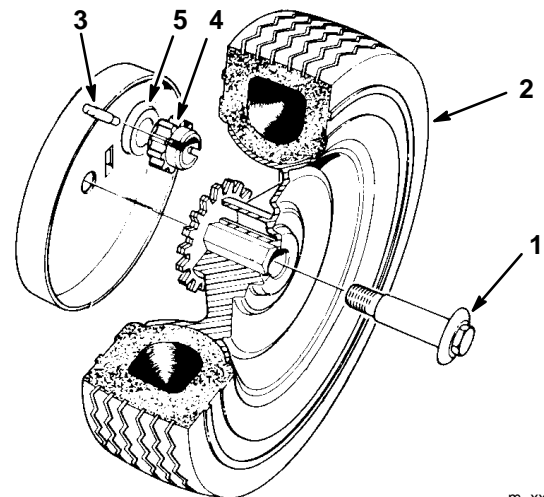

Figure 1
1. Remove wheel bolt and wheel (Fig. 1). Retain for reassembly.
5. Remove pinion gear and washer (Fig. 1).